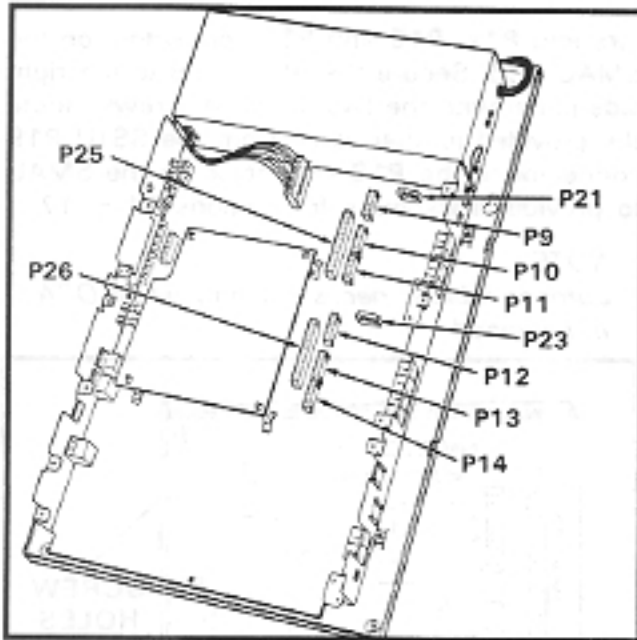

FIGURE 10—V_Le SSTU and SVCU LOCATIONS
05.43 For adding stations 18 ~ 21, refer to Figure 10, and insert the three SSTU 10-pin connectors into **P9**, **P10** and **P11** connectors on the VMAU PCB. Secure the SSTU PCB to the right side panel with the two provided screws. (For stations 22 ~ 25, insert the three 10-pin connectors on another SSTU into **P12**, **P13** and **P14** connectors on the VMAU PCB. Secure the SSTU PCB to the right side panel with the two provided screws.)
- a) To provide OCA to stations 10 ~ 17, refer to Figure 10, and insert connector P1 on the SVCU into the P25 connector on the VMAU.